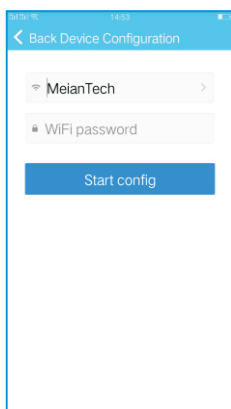
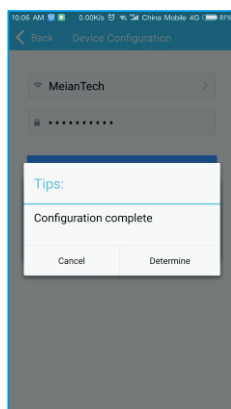

Fig. 5-6
Fig. 5-7
Step 3: Enter the name and password of the WiFi to be connected(Fig. 5-6), click “Start Config”, and click Host ☒ when the host screen displays “Configuration Successful”(Fig. 5-7).